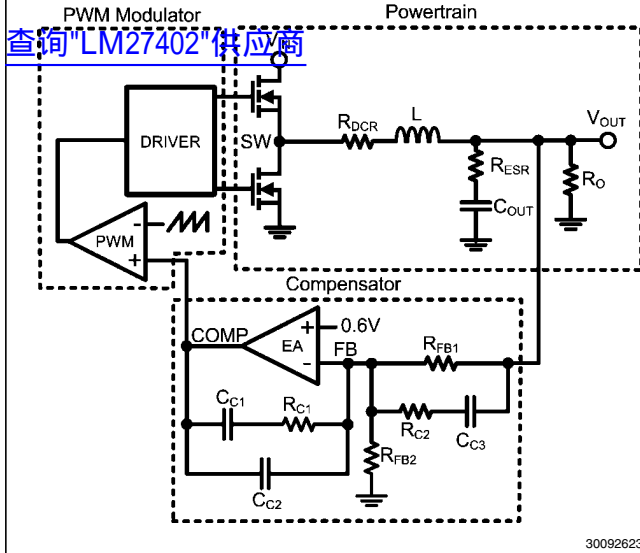
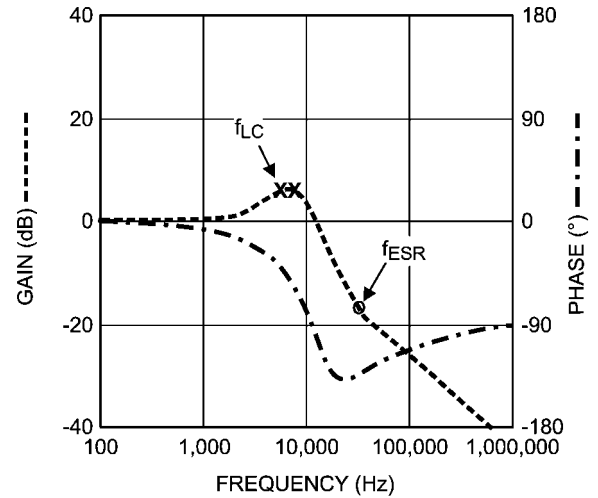

FIGURE 13. Control Loop Schematic Diagram
FIGURE 14. Powertrain Bode Plot
There are three main blocks of a voltage mode buck switcher that the power supply designer must consider when designing the control system: the powertrain, PWM modulator, and the compensator. A diagram representing the control loop is shown in Figure 13.
The powertrain consists of the filter inductor (L) with DCR ( $R_{DCR}$ ), output capacitor ( $C_{OUT}$ ) with ESR (effective series resistance  $R_{ESR}$ ), and effective load resistance ( $R_O$ ). The error amplifier (EA) regulates the feedback pin (FB) to 0.6V. The passive compensation components around the error amplifier help maintain system stability. Type III compensation is shown in Figure 13. The PWM modulator establishes the duty cycle command by comparing the error amplifier output (COMP) with an internally generated ramp set at the switching frequency.
The bode plot of the above transfer function can be seen in Figure 14.
The complex poles ( $f_{LC}$ ) created by the filter inductor and output capacitor cause a 180° phase shift as seen in Figure 14. The phase is boosted back up to -90° by virtue of the output capacitor ESR zero. The phase shift caused by the complex poles must be compensated to stabilize the loop response. The compensation network shown around the error amplifier in Figure 13 creates two poles, two zeros and a pole at the origin. Placing these poles and zeros at the correct frequencies will optimize the loop response. The compensator transfer function is: